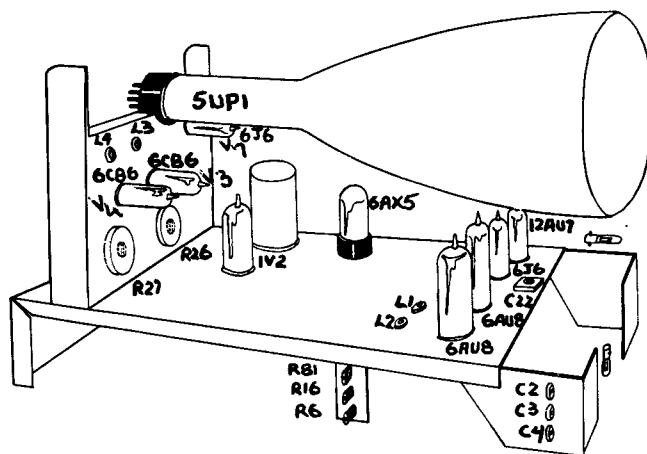

Fig. 7
b) Adjust panel controls for a stationary pattern of several 60 cps sine waves (approximate overall pattern dimensions: 2" high, 3" wide). Make a preliminary adjustment for sharpness of the trace with the FOCUS control. Then set the INTENSITY control to produce a trace of normal brightness (excessive intensity will be evidenced by "blooming" of the trace). At this point any astigmatism in the trace will be evidenced by some portions of the trace being thicker than others. Now jointly adjust the astigmatism control R81 (see Fig. 7) and the FOCUS control until a sharp trace with the greatest possible uniformity of thickness is obtained.
c) Short the V-INPUT terminals. Set the VERT. ATTENUATOR to "1000" under the AC arc on the dial and the VERT. GAIN control for minimum gain. Adjust the V. POS. control for a trace vertically at dead center. Now set the VERT. GAIN control for maximum gain and adjust the DC balance control R16 (see Fig. 7) until the trace is returned vertically to dead center. Repeat until no vertical shift in the trace can be detected when the VERT. GAIN control is rotated from minimum to maximum.
d) Adjust linearity controls R26 and R27 (see Fig. 7) exactly as follows. Set the VERT. GAIN control for minimum gain. Set your VTVM or VOM (at least 1000  $\Omega$ /volt) to a low DC volts range on which 2 volts dc can be read with reasonable accuracy. Connect the negative voltmeter lead to grid pin 1 of the 6CB6 tube V3 and the positive lead to cathode pin 2. Adjust the linearity control R26 for a voltmeter reading of 2 volts; or as near 2 volts as the control permits. Disconnect both voltmeter leads from the grid and cathode pins of V3. Now connect the negative voltmeter lead to grid pin 1 of the other 6CB6 tube V4 and the positive lead to the cathode pin 2. Adjust the other linearity control R27 for a voltmeter reading of 2 volts also, or if 2 volts was not obtainable in the previous adjustment, to whatever voltage was obtained in this adjustment. Do not attempt voltage measurements to ground as there is a voltage of approximately 100 volts between each 6CB6 cathode and ground which might seriously damage a voltmeter set to a low range. Change in H positioning is normal during these adjustments.
i) Adjustment of calibration voltage: Set your VTVM or VOM to the ac voltage range on which 1.42 volts rms (or 4 volts peak-to-peak) can be read as accurately as possible. Connect one voltmeter lead to the junction of rheostat R6 and resistor R5 and the other lead to chassis ground. Adjust rheostat R6 (see Fig. 7) for a reading of 1.42 volts rms or 4 volts peak-to-peak. Note that this voltage is applied to a 10:1 divider composed of R4 and R5, so that the voltage actually injected into the vertical amplifier is 400 millivolts peak-to-peak.
j) Adjustment of TV-H sweep trimmer: Set the SWEEP SELECTOR at TV-V. Then set the VERT. ATTENUATOR to CAL., the HOR. SELECTOR at "+", and adjust the SWEEP VERNIER to obtain a stationary pattern of two complete cycles on the screen indicating a 30 cps sweep frequency. Now turn the SWEEP SELECTOR to the TV-H position and apply a 15,750 cps signal taken from the horizontal section of any tv set to the V. INPUT terminals. Adjust the VERT. ATTENUATOR & VERT. GAIN controls to obtain a drifting pattern entirely on screen but do not touch the SWEEP VERNIER. Now adjust trimmer C22 (see Fig. 7) until a stationary pattern of two complete cycles is obtained on the screen, indicating a 7875 cps sweep frequency. This completes the adjustment. Now, whenever the SWEEP VERNIER is set to produce a 30 cps sweep (indicated by two cycle display of 60 cps signal) with the SWEEP SELECTOR set at TV-V, turning the SWEEP SELECTOR to TV-H without touching the SWEEP VERNIER will automatically give a 7875 cps sweep.
**TUBE REPLACEMENT:** Tube location is shown in Fig. 7. Readjustment will be required when replacing V1, V2, V3, or V4. When the CRT is replaced, it must be rotated until the horizontal trace is level.